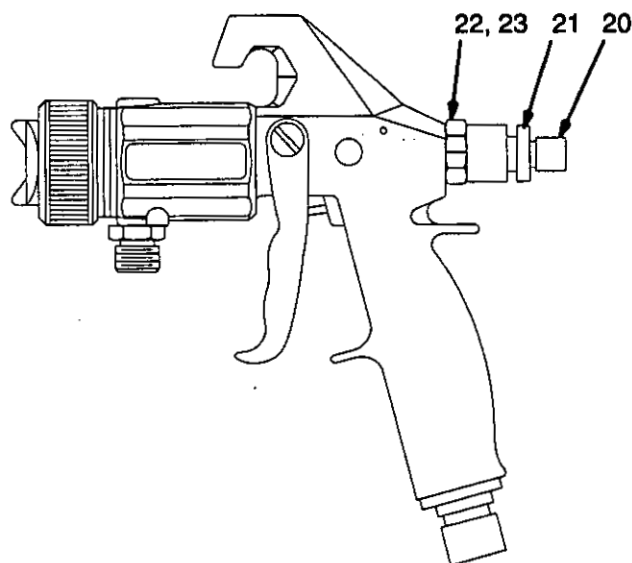

Fig. 24
1. Remove the housing (22) from the back of the gun. The fluid adjustment knob (20), nut (21), and spring (23-not shown) will come out with it. See Fig. 24.